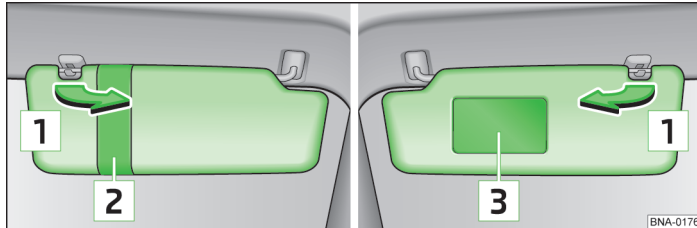

Fig. 31 Sun visors: driver's side / passenger side
- Pull out of the fixture and swivel towards the doors **1** » fig. 31.